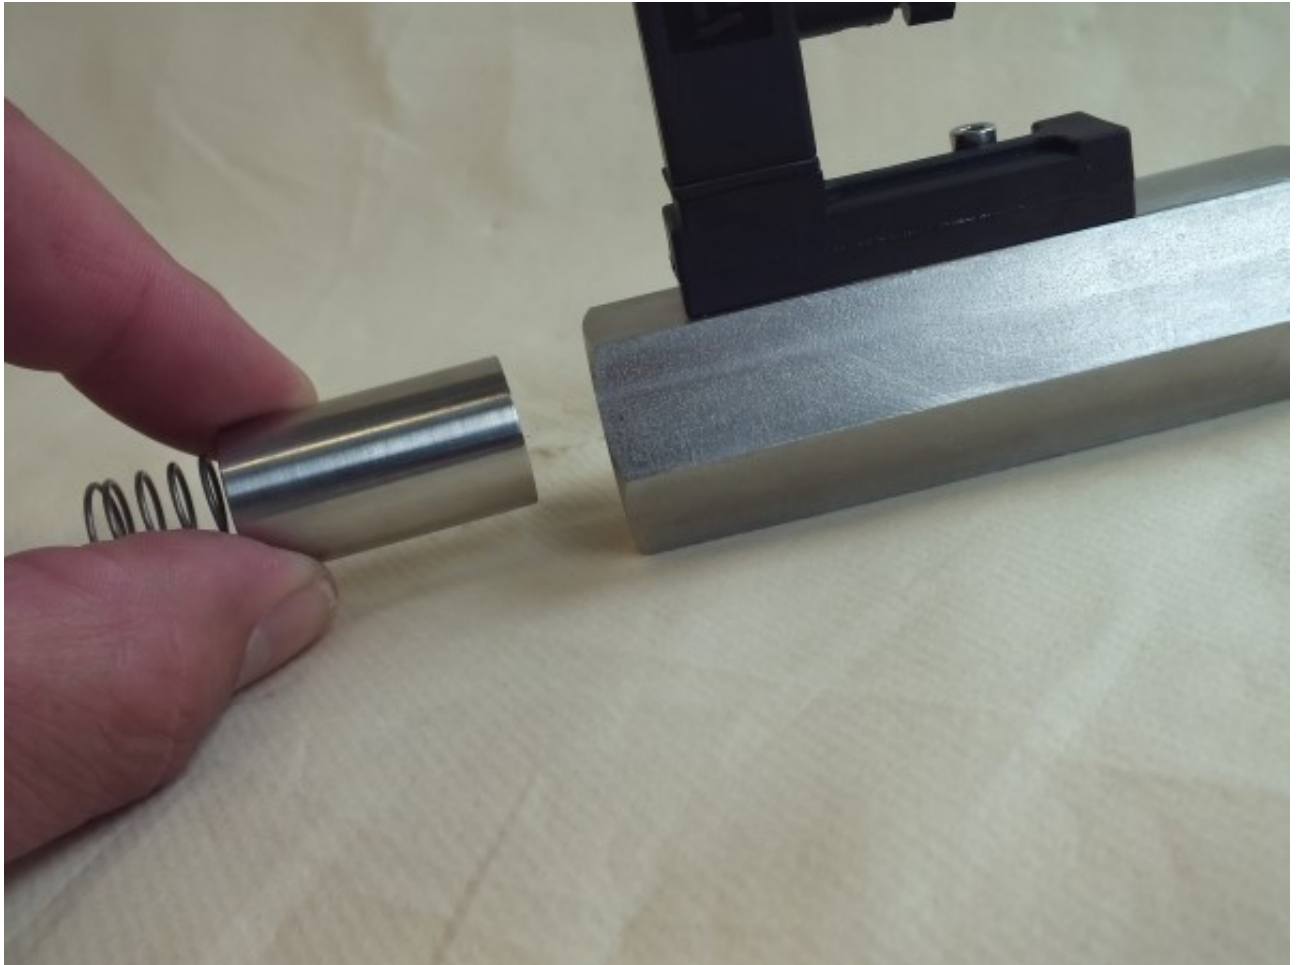

Fig. 38: Remove inner parts
- 4.** ➤ Carefully turn the device body 180° and remove the inner parts (float and spring). (Fig. 38)